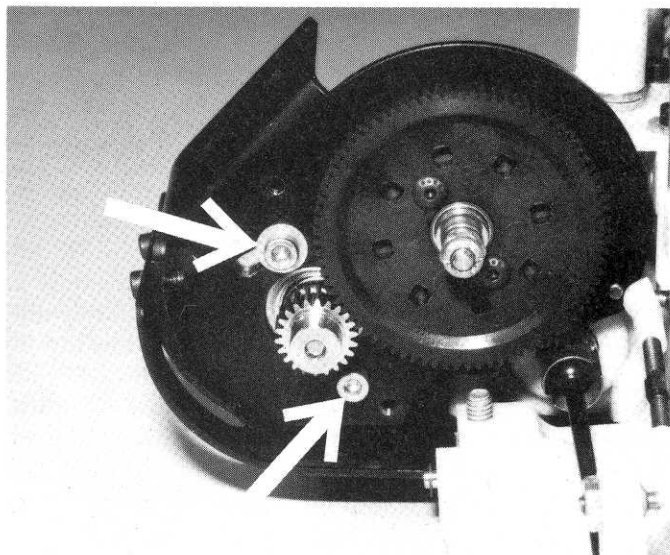

Fig. 119
□ **Fig. 119** Remove the gear cover. In the motor bag are 2 metric motor mounting screws. These screws have finer threads and are ONLY used to mount the motor. Slip the motor in the motor mount and start the bottom screw in first. Do not tighten all the way down yet. On the top screw, put a washer on the screw and screw it in, but not tight. Now we'll set the gear mesh. By moving the upper screw, forward or back, we'll be moving the motor closer to, or away from the plastic spur gear. What we want to do is to get the metal pinion gear as close to the plastic spur gear as we can without binding up the gears. The easy way to check this is to put your finger on the plastic gear and see if you can rock it in the teeth of the metal gear. The 2 gears should be as close as possible, while still being able to very slightly rock the plastic gear. When you have this correct spacing, tighten down on the 2 motor screws and re-check the gear spacing. An incorrect gear mesh can result in a huge power loss, so do it correctly.